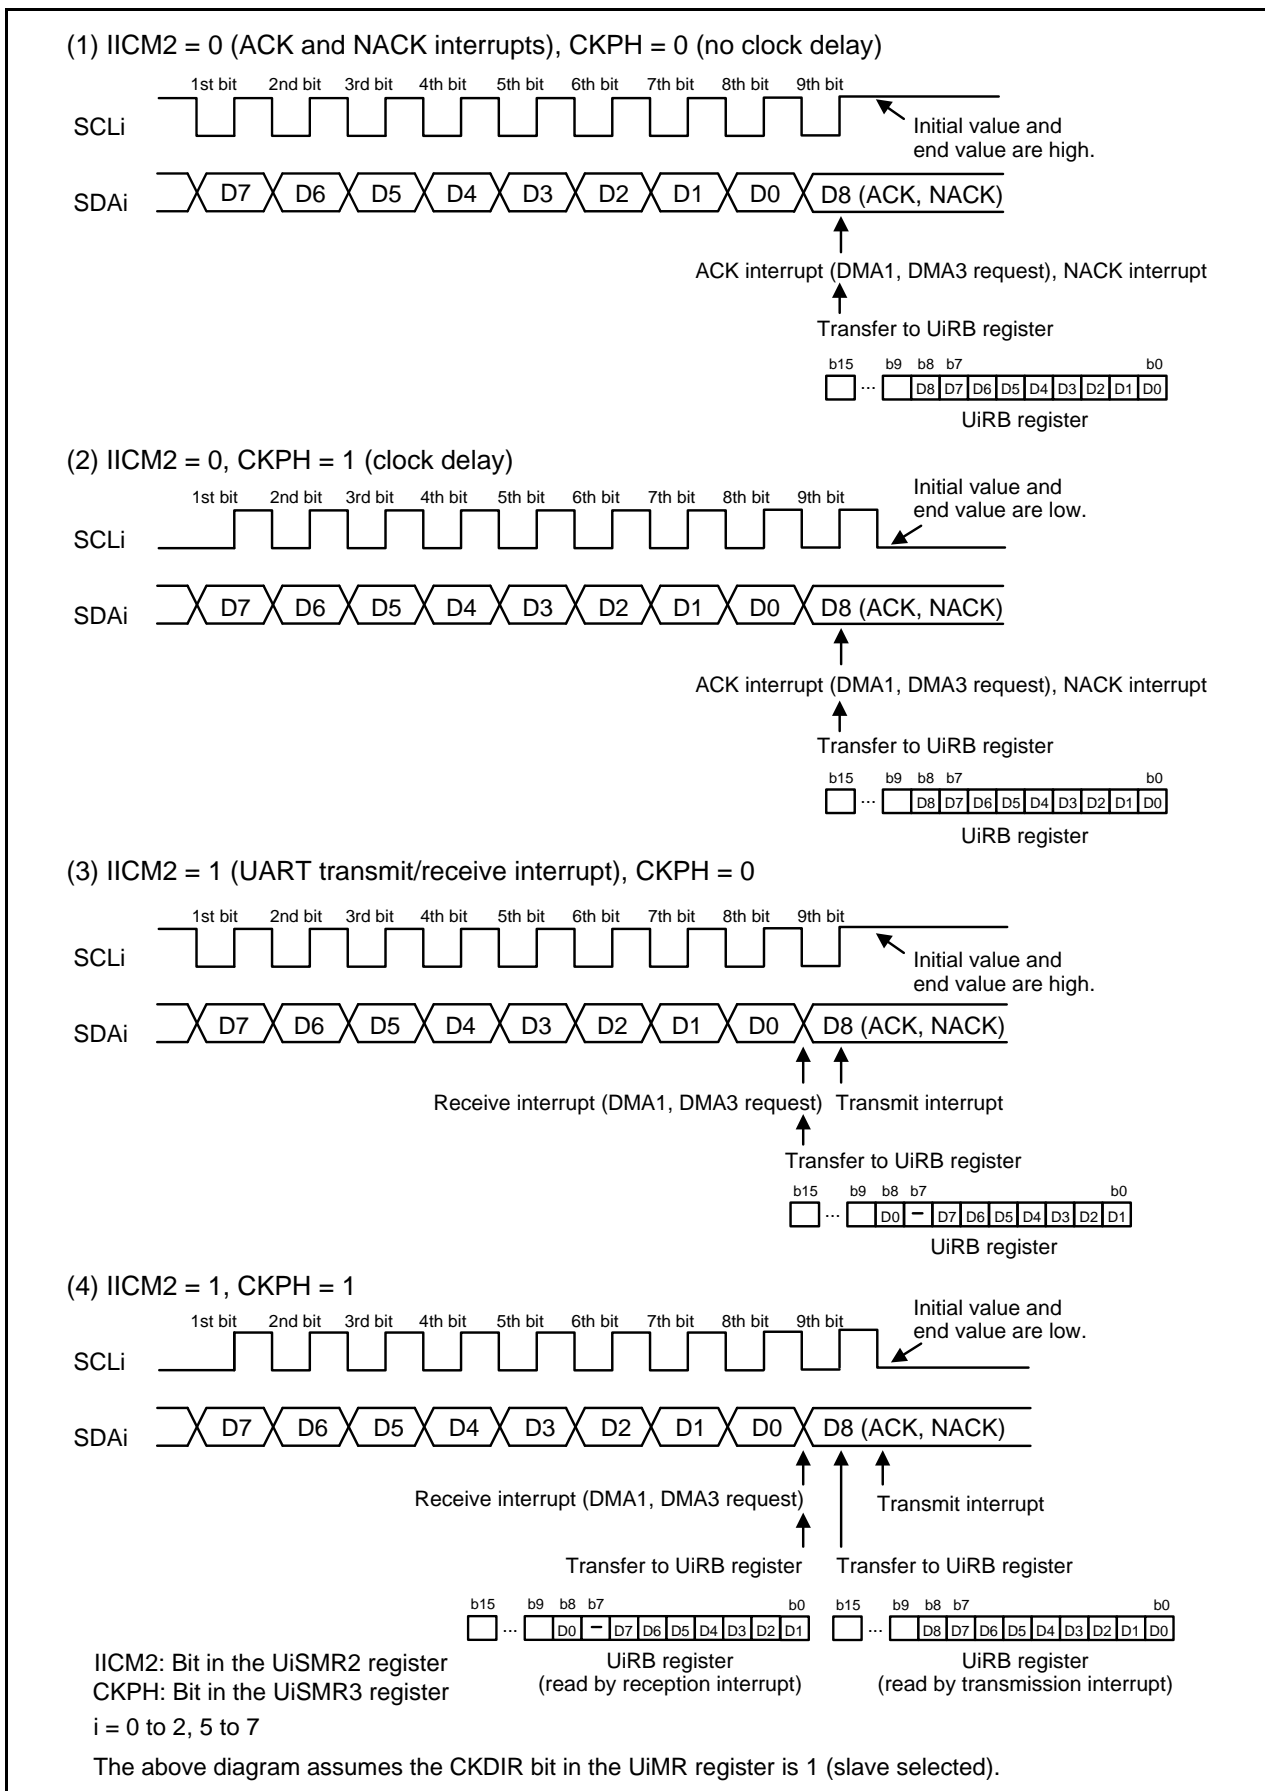

Figure 23.19 Transfer to UiRB Register and Interrupt Timing
In I²C mode, functions and timings vary depending on the combination of the IICM2 bit in the UiSMR2 register and CKPH bit in the UiSMR3 register. Figure 23.19 shows Transfer to UiRB Register and Interrupt Timing. See Figure 23.19 for the timing of transferring to the UiRB register, the bit position of the data stored in the UiRB register, types of interrupts, interrupt requests, and DMA request generation timing.
2. See Figure 23.19 "Transfer to UiRB Register and Interrupt Timing".
The transmit/receive clock is used to transmit/receive data as is shown in Figure 23.19.